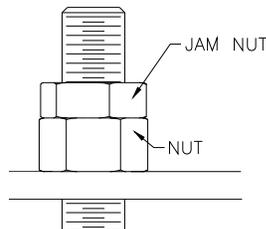

Fig 11 – Cable Jam Nut
- 22) Secure the cables to the top of the column with the nut and jam nut provided, Fig 11.